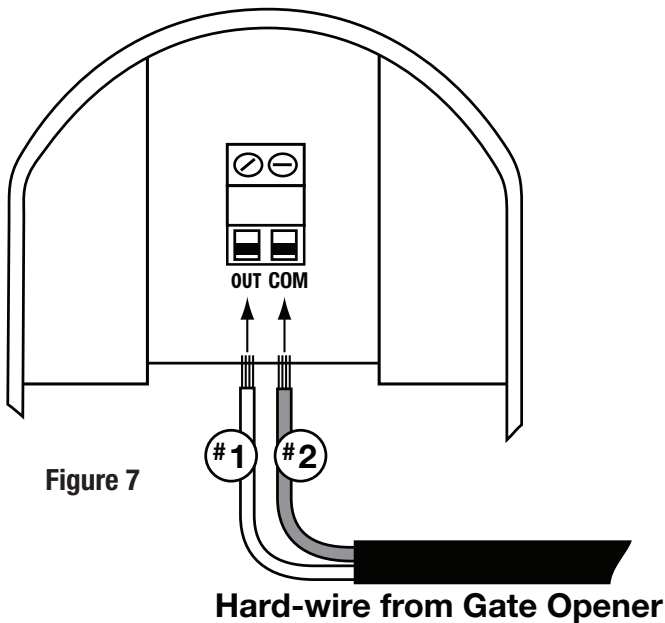

Figure 7
Step 2: Strip the wires back 3/16" and attach the wires to the terminal block marked OUT COM on the keypad control board as shown in (**Figure 7**) making sure to keep track of polarity. Connect the other end to the opener's control board as shown in Control Board Connections section below.